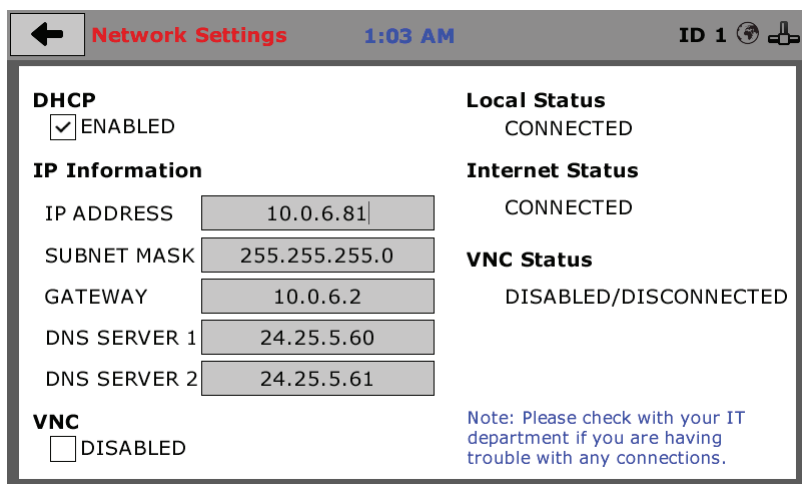

Figure 12
- 6) The Network Settings screen is shown in Figure 12 below. The Cabinet has a webpage where you can run tests and download data. When using a static IP, type in the IP address shown into a web browser on your PC to access the Cabinet. Note not all network functionality may be available at time of product release. Check for updates frequently.